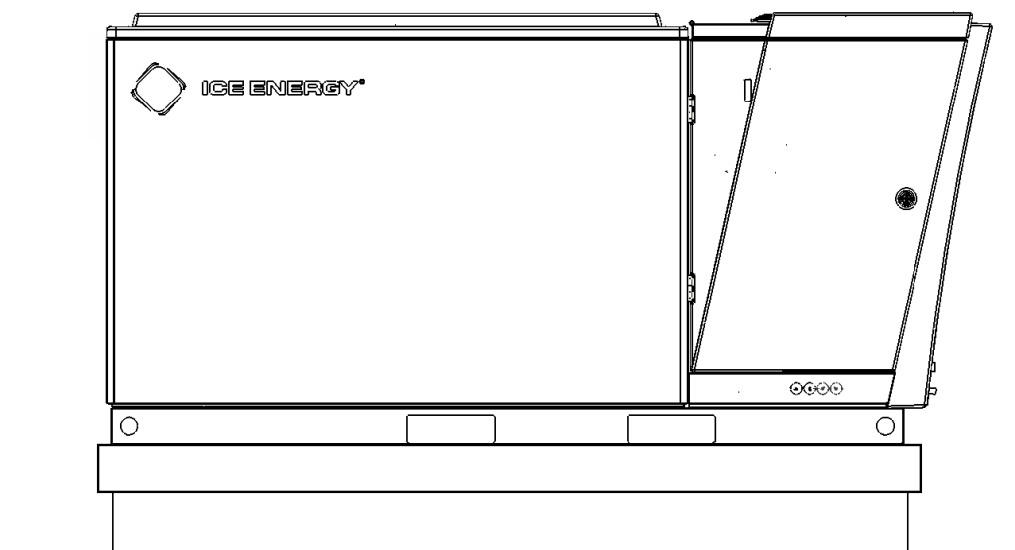

Figure 18 – Ice Bear[®] 30 Unit on Structural Curb with Cap
2. Position ICE BEAR UNIT over structural curb with cap (see Figure 18).
Figure 18 illustrates an ICE BEAR UNIT mounted on a structural curb with cap. Contact Ice Energy for details.